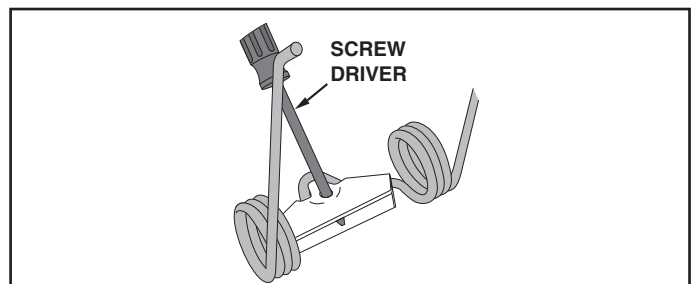

FIGURE 9
- To remove a spring tine, insert a screw driver or punch into the locking tab and pry up. Replace spring tine and pry tab down. See figure 9.